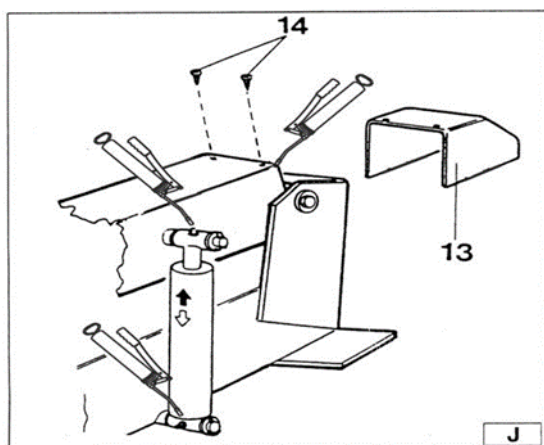

Fig 20
- 2) Grease the spindle bracket lift cylinder and its swivel from time to time. Add the grease through the grease nipples (see Fig 20/J) using ordinary lubricating grease. **Note:** To reach the grease nipple on the bracket, remove the plastic cap by removing the two self-tapping screws as shown in Fig 20/J.